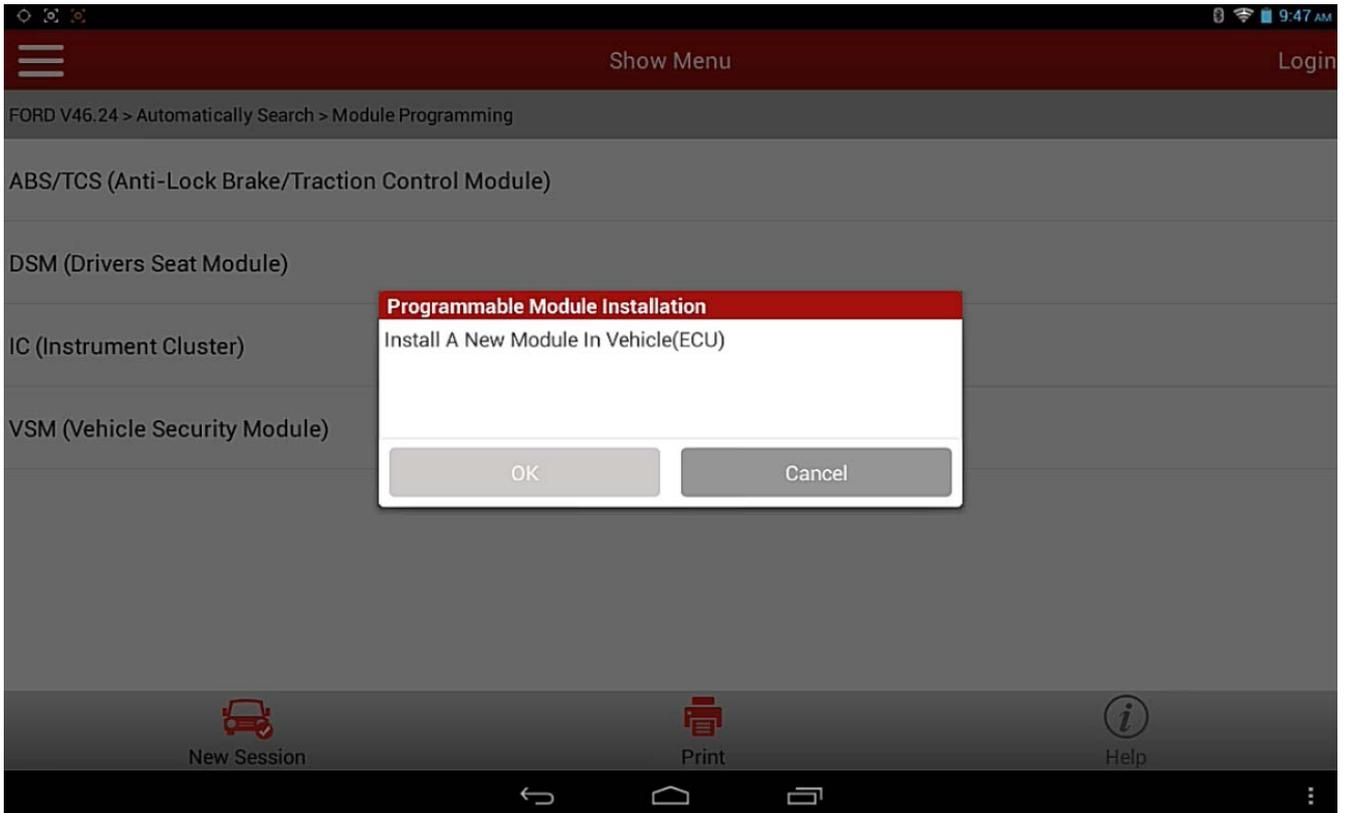

Figure 4
- 8).After the program completes reading old module information, install a new module. See Figure 4. Ensure that all cables and connectors are correctly connected and the decoder power supply is kept connected. After installation, click OK. The program starts writing new programmable module information.